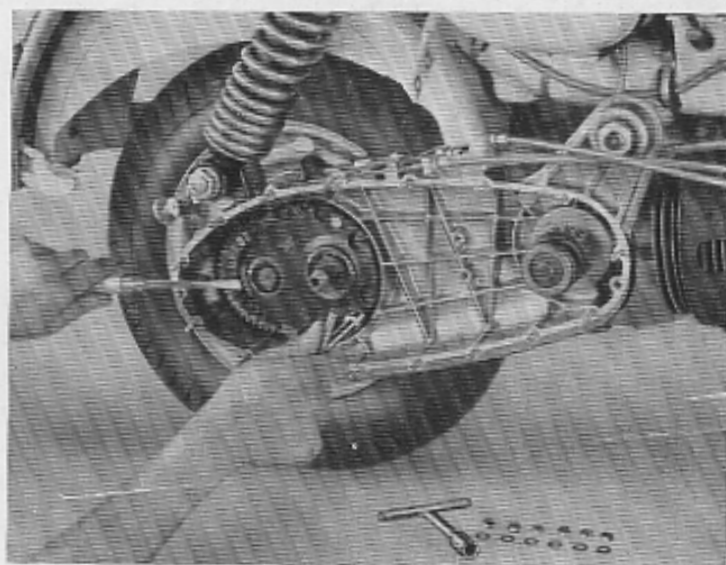

Fig. 10
- 13 To remove gear shaft support flange: unscrew the 6 nuts fixing it to the crankcase (11mm spanner) and extract flange using the two threaded holes for extraction, by fitting the two 6mm x 1 screws which fix the chain guides helping the extraction with a screwdriver inserted under the flange. (See Fig. 10).